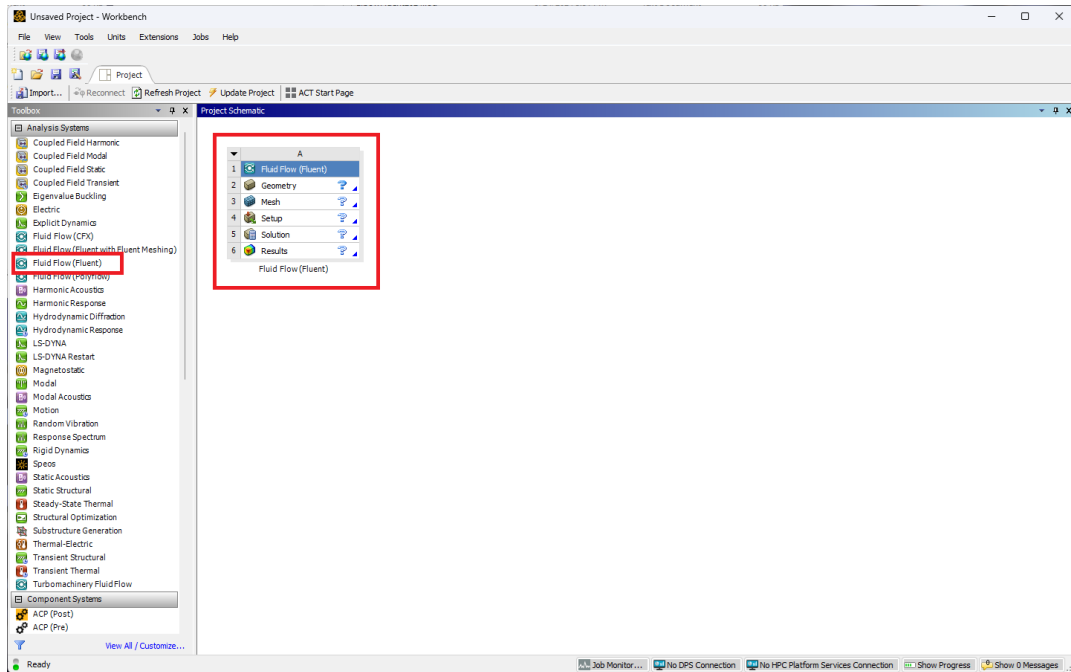

Figure 5: Selection of Fluent in ANSYS WB.
- Select, from the *Toolbox* list on the left, in the *Analysis Systems* group, *Fluid Flow (Fluent)* and drag it into the *Project Schematic* pane, as shown in figure 5.